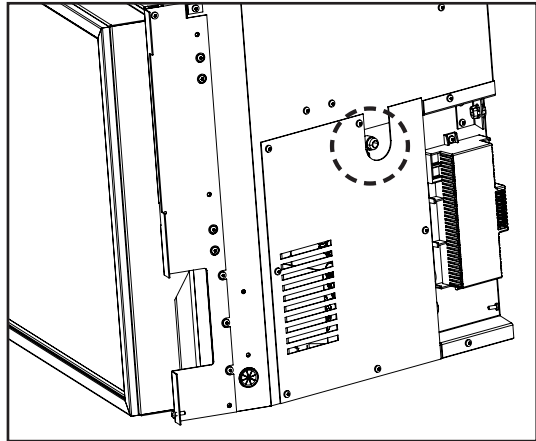

Figure 36: Gas connection location
- A 3/8" 45° flared fitting is supplied with the unit (see Figures 36 and 37). Consult the local authorities for local codes or use the CAN/CGA B149 (1 or 2) installation code in Canada. In the US, gas installations follow either local codes or the current edition of the National Fuel Gas Code ANSI Z223.1.